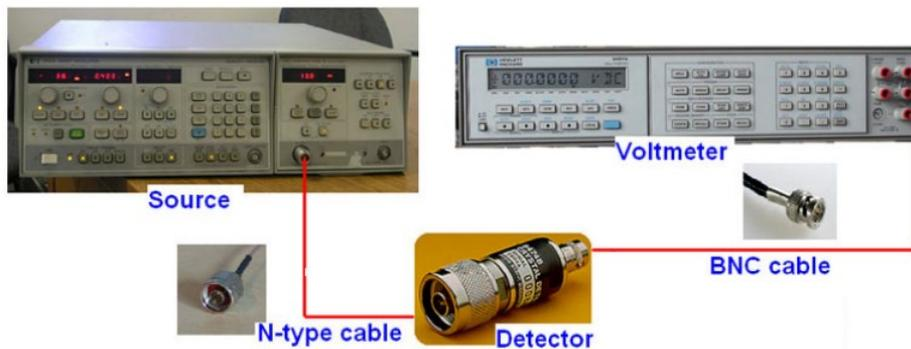

Figure 3: RF power measurement setup
- Arrange the lab equipment as shown in Figure 3. The crystal detector can be directly connected to the microwave source to minimize the number of cables you need and eliminating the N-type cable. On some sources, the RF output is on the back of the device (make sure you connect to the one labeled RF, not AUX). Obtain data to plot a curve of RF (600MHz) power -50dBm to 15dBm in 5dBm steps. Plot the data with the RF power (in dBm) on the linear x -axis and the DC voltage (in millivolts) on the y -axis (logarithmic scale).